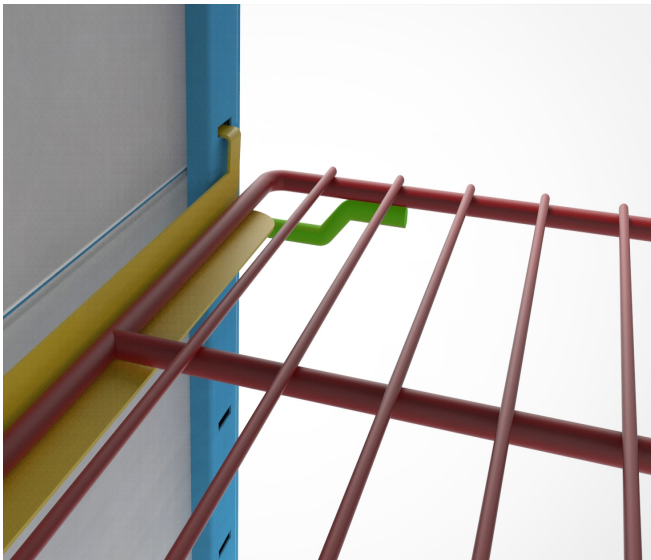

Figure 5:
4. Slide the shelves onto the runners so that the spur is positioned on the underside of the runner towards the back of the chamber (see figure 5). This will prevent the shelf from tilting forwards when it is partially withdrawn